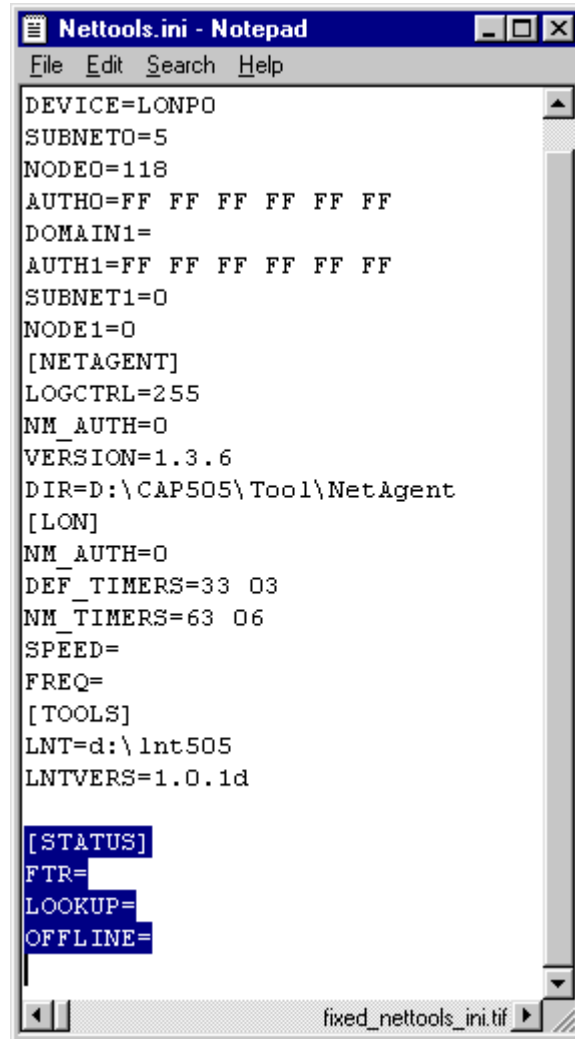

Fig. 5.6.5.3.-2 An example of the file NETTOOLS.INI. As the selection indicates, the values have been removed
3. Under the section STATUS, empty the values of the keys FTR, LOOKUP and OFFLINE as illustrated in Fig. 5.6.5.3.-2 below.